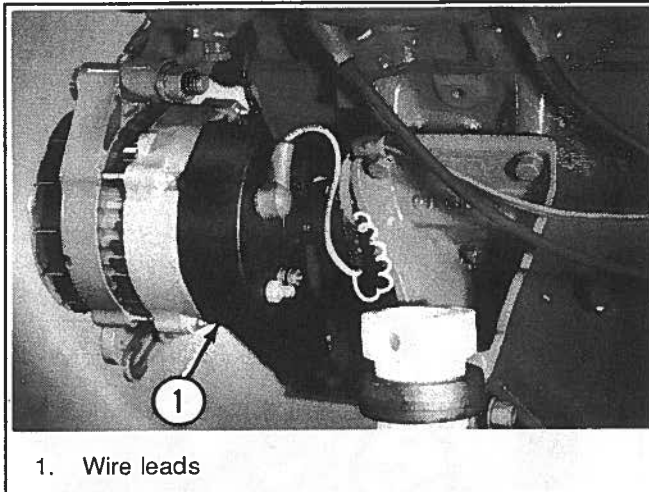

Figure 6-65. Disconnecting Alternator Leads
2. Disconnect wiring leads (Figure 6-65).